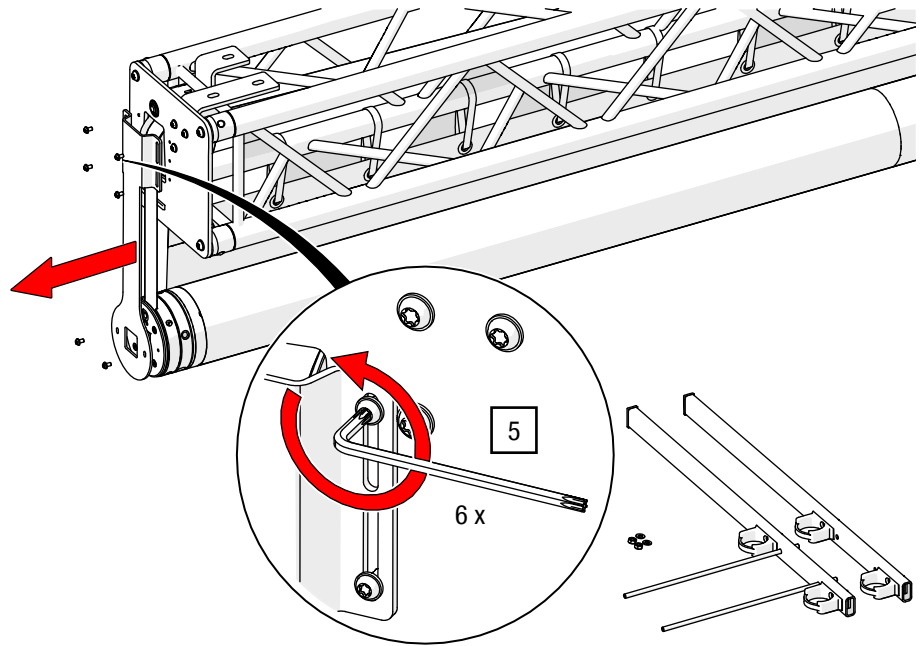

Fig. 15: Release transport lock
- Loosen the locking plates on the sides with a TORX®-key T30 (see Fig. 15).